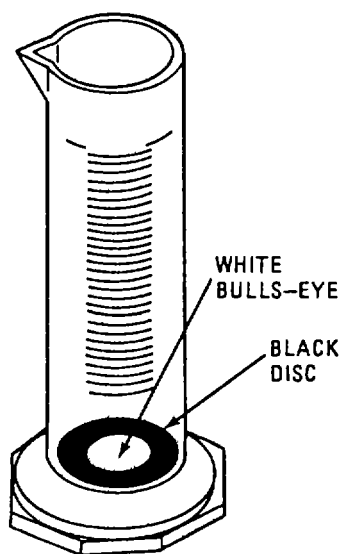

Figure 2-13. Turbidity Tube.
- l. Turbidity Tube. The turbidity tube (figure 2-13) is used to see how clear the filtered water is.